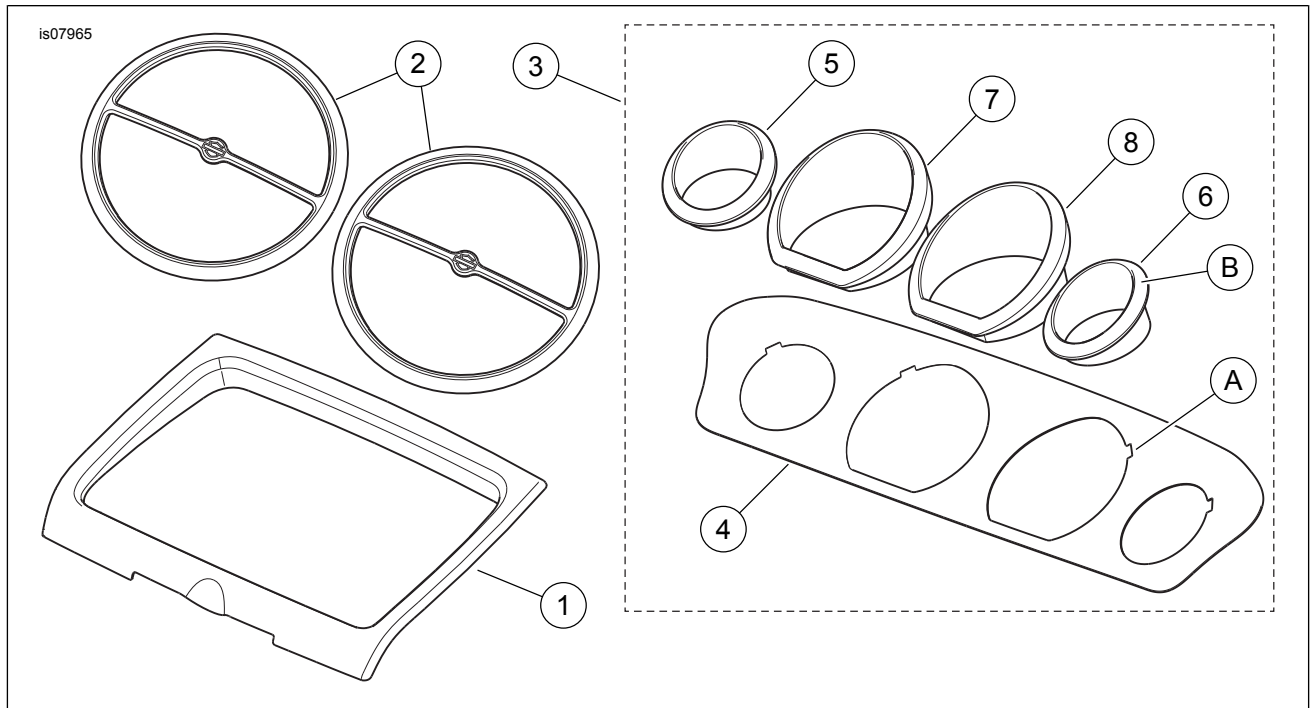

Figure 3. Service Parts, Inner Fairing Trim Kit
See Figure 3 and Table 1.
1. See Figure 3. With the protective tape still in place on the adhesive backing, test fit the radio trim (1) to the radio bezel.
2. See Figure 3. With the protective tape still in place on the adhesive backing, test fit the faceplate (4) to the inner fairing.